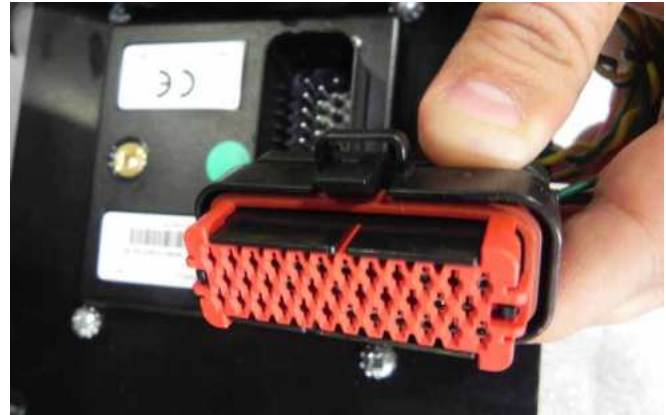

Figure 5-51. Terminal Seat
6. Push the red retaining clip back into the locked position and ensure terminals are flush with the red retaining clip. (**Figure 5-51**)